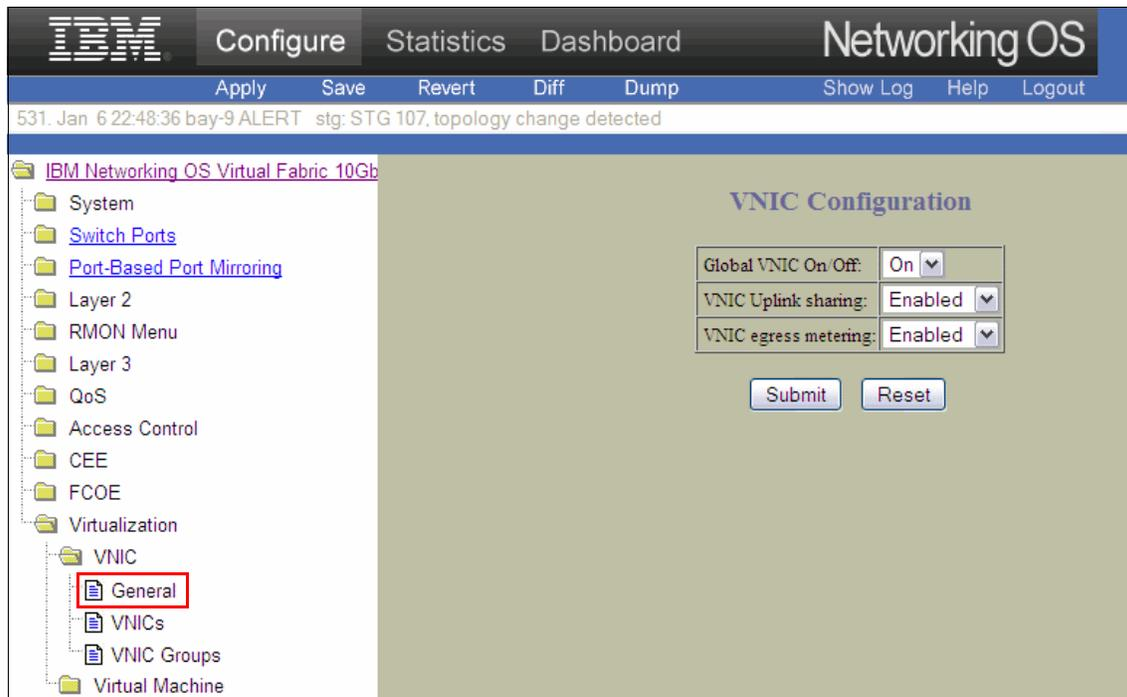

Figure 6-13 Enabling vNIC operations on the vNIC Configuration panel
1. On the **Configure** tab of the BBI, to enable vNIC operations, expand **Virtualization** → **VNIC**, and then select **General** (Figure 6-13).